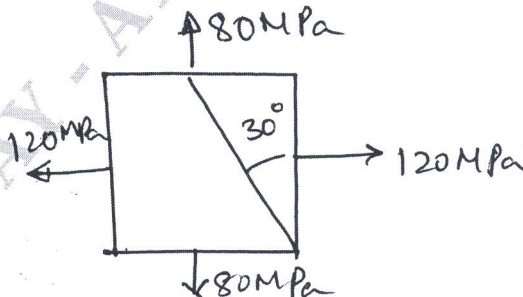

Fig.Q3(b)
- b. The direct stresses acting at a point in a strained material as shown in Fig.Q3(b). Find the normal, tangential and the resultant stresses on a plane 30° to the plane of major principle stress. Find the obliquity of the resultant stress also.